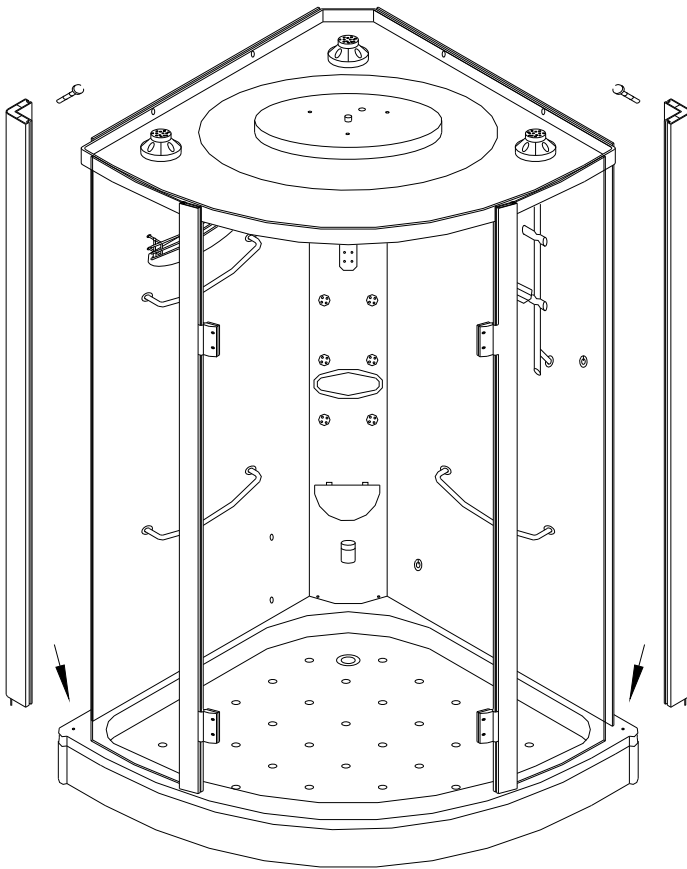

Fig. 7
6. Install the fixed glass---Install plastic strip **A** to the lower end of the two fixed glass first (no left and right), place them on the basin and insert them to the fore pillars` notch, as fig. 7 shows. Then insert the corner pillars` bolt in the fixed hole in the basin according to the arrow direction in Fig. 7, and make all side glass and fixed glass inserted in the side notch of the corner pillar, use one ST4×20 tapping screw to connect the corner pillar with the top cover.